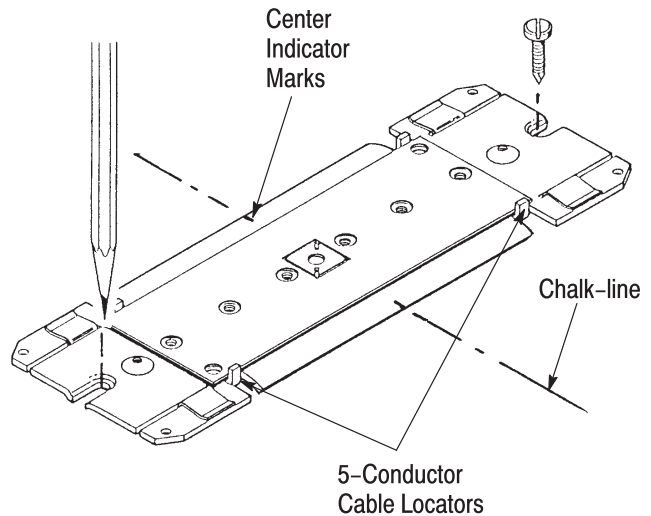

Figure 2
1. Center mounting plate on chalk-line using the center indicator marks. Use mounting plate as a template to mark hole locations. Prepare area to accept customer selected mounting hardware. Vacuum debris. See Figure 2.